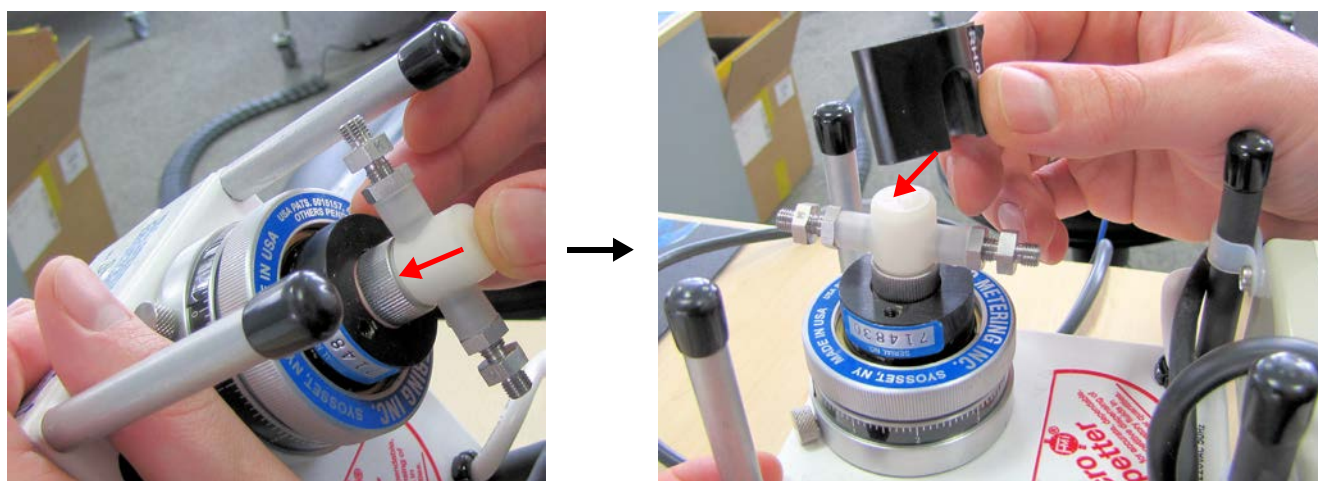

Figure 9-34. Attaching acid pump head to acid pump
13. As Figure 9-34 shows:
- a. Carefully push the acid pump head into the opening of the acid pump. See Figure 9-34, left.
- b. Attach the protective cap upon the acid pump head. See Figure 9-34, right.